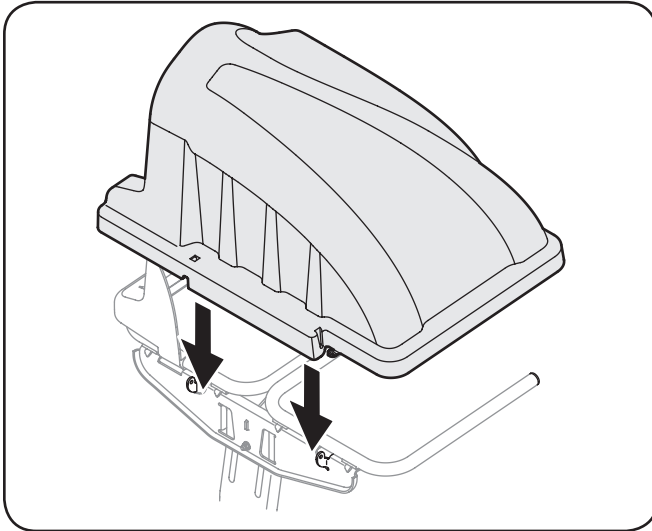

Figure 4-13
3. Install the grass catcher cover onto the bag support assembly, as shown in Figure 4-13. The grass catcher cover goes inside of the two mounting tabs on the bag support assembly.